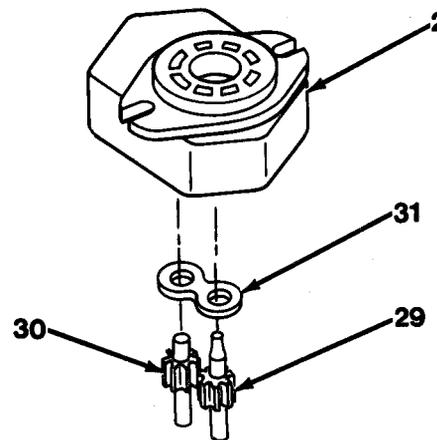

Figure 13-5
13. Remove drive gear (29) and driven gear (30, Figure 13-5).
14. Remove wear plate (31) from front body (21).